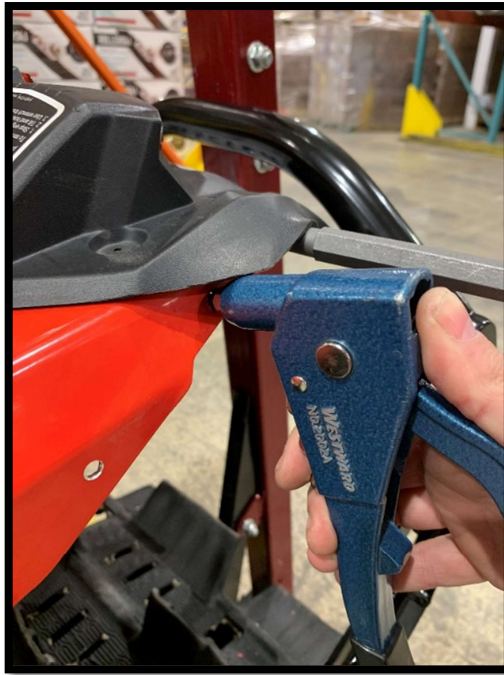

fig 1.8
4.3 Put back rivet [P5] on each side of the snow flap (fig 1.8)